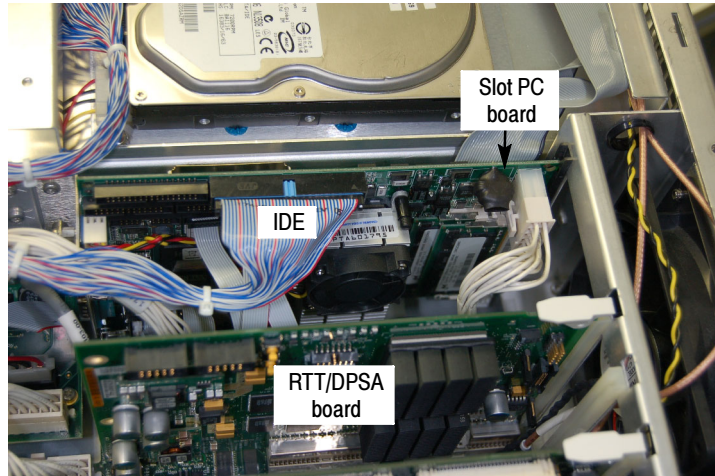

Figure 3: Location of Slot PC board
1. Locate the RTT/DPSA board in slot 5. See Figure 3.
3. Locate the Slot PC board. See Figure 3.